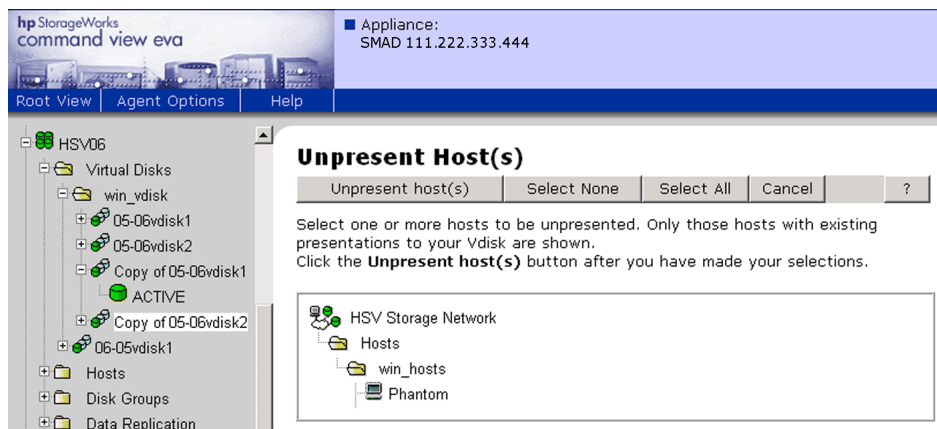

Figure 71: Unpresent Host(s) page
- c. Click the **Unpresent** tab. The Unpresent Host(s) page opens (Figure 71).